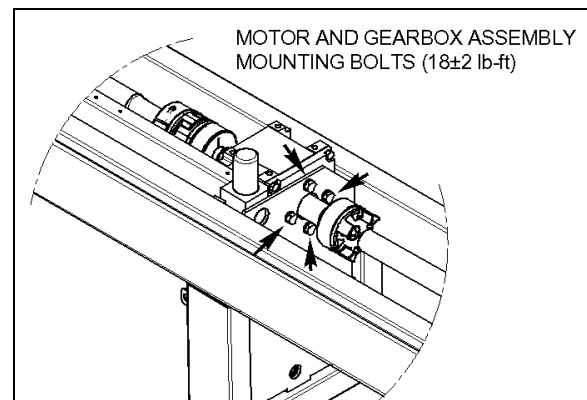

FIGURE 18: MOTOR/GEARBOX ASSEMBLY MOUNTING BOLTS
Inspect the electrical connections for watertightness. Check that the mounting bolts are tight (FIGURE 18).
3. Remove the 4 cap screws securing the motor/gearbox assembly and dismount the assembly (see FIGURE 18).